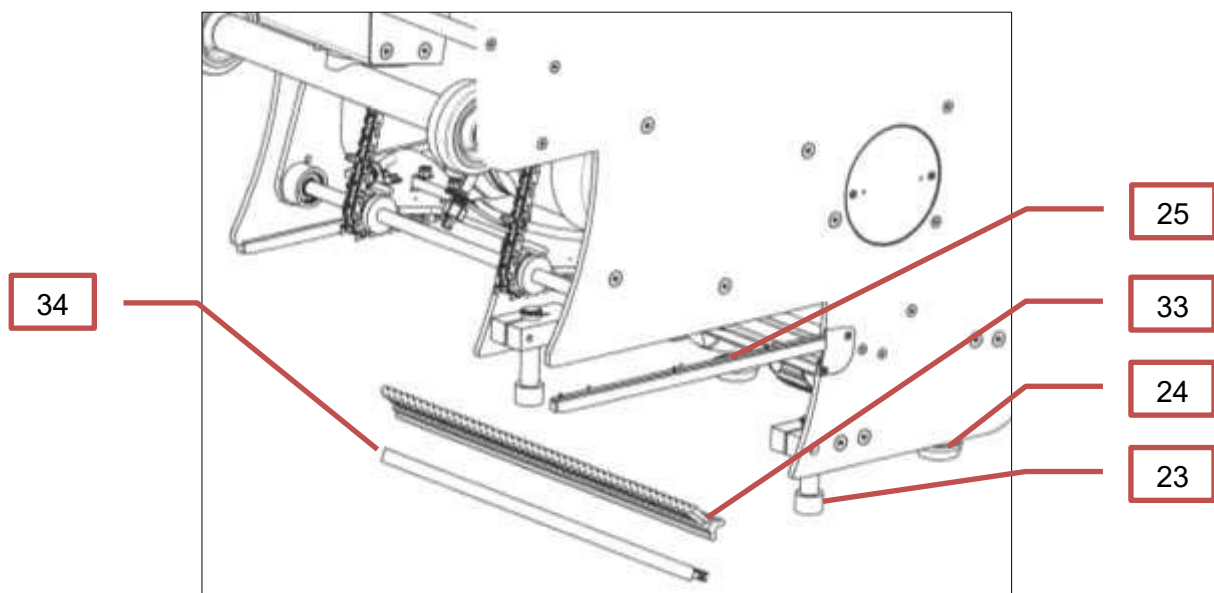
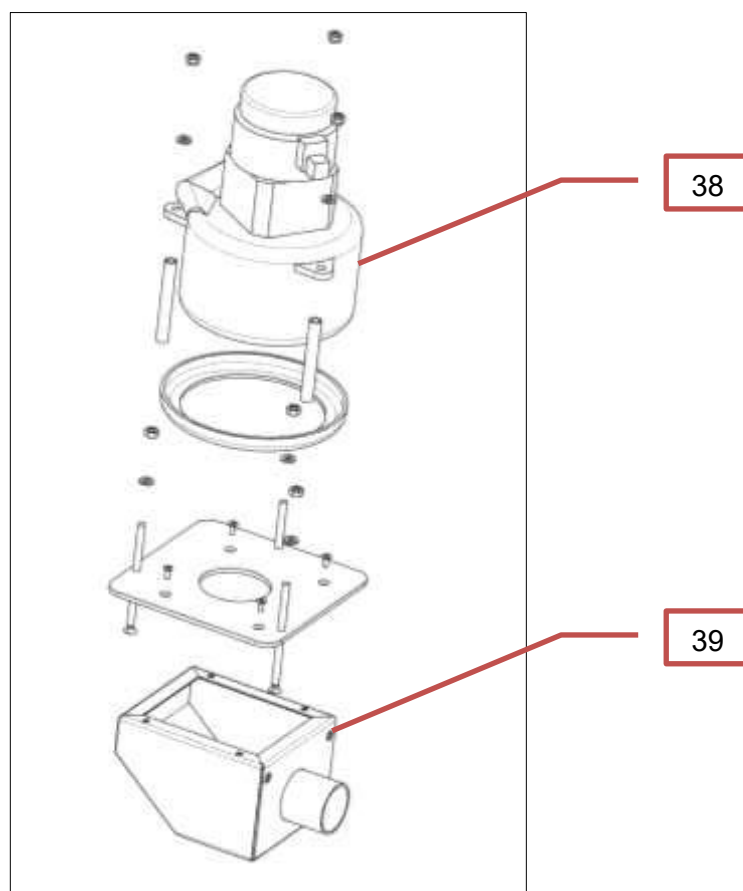

Figure 19 Seal strip
Figure 20 Collecting container
- Clean and lightly lubricate the extended lifting spindles (22).
- Check seal strips (34) and renew if necessary (Fig. 19: Seal strip).
- Check chains (35) for correct tension and, if necessary, tighten with chain adjuster 44) (see Chapter 4.6.1 Tightening the chain and Fig. 20: Chain drive /Spraying nozzle).
- Clean chains (35) and treat with a chain spray.
- Check spray nozzles (36) and clean if necessary.
- Check glide rails (25) on the right and the left. Replace if showing signs of wear (Fig. 19: Seal strip).